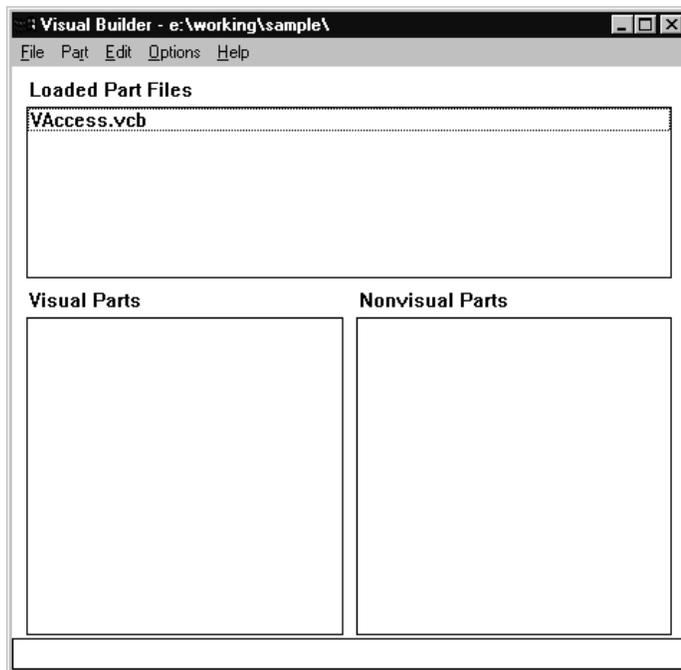

Figure 26. Visual Builder window
Visual Builder displays the Visual Builder window, as shown in Figure 26 on page 81. If you double-clicked on a part file to open Visual Builder, the file is loaded and opened.
Visual Builder displays the Visual Builder window, as shown in Figure 26 on page 81. If you double-clicked on a part file to open Visual Builder, that file is loaded and opened.
2. Select the **Visual Builder** menu item. Visual Builder displays the Visual Builder window, as shown in Figure 26 on page 81. You need to specify a working directory and load part files. Refer to “Getting to know the Visual Builder Window” on page 31 to learn more about specify working directories and loading part files.
3. Select the **COBOL Visual Builder** menu item. Visual Builder displays the Visual Builder window, as shown in Figure 26. You need to specify a working directory and load part files. Refer to “Getting to know the Visual Builder Window” on page 31 to learn more about specifying working directories and loading part files.
3. Press the Enter key. Visual Builder displays the Visual Builder window, as shown in Figure 26.